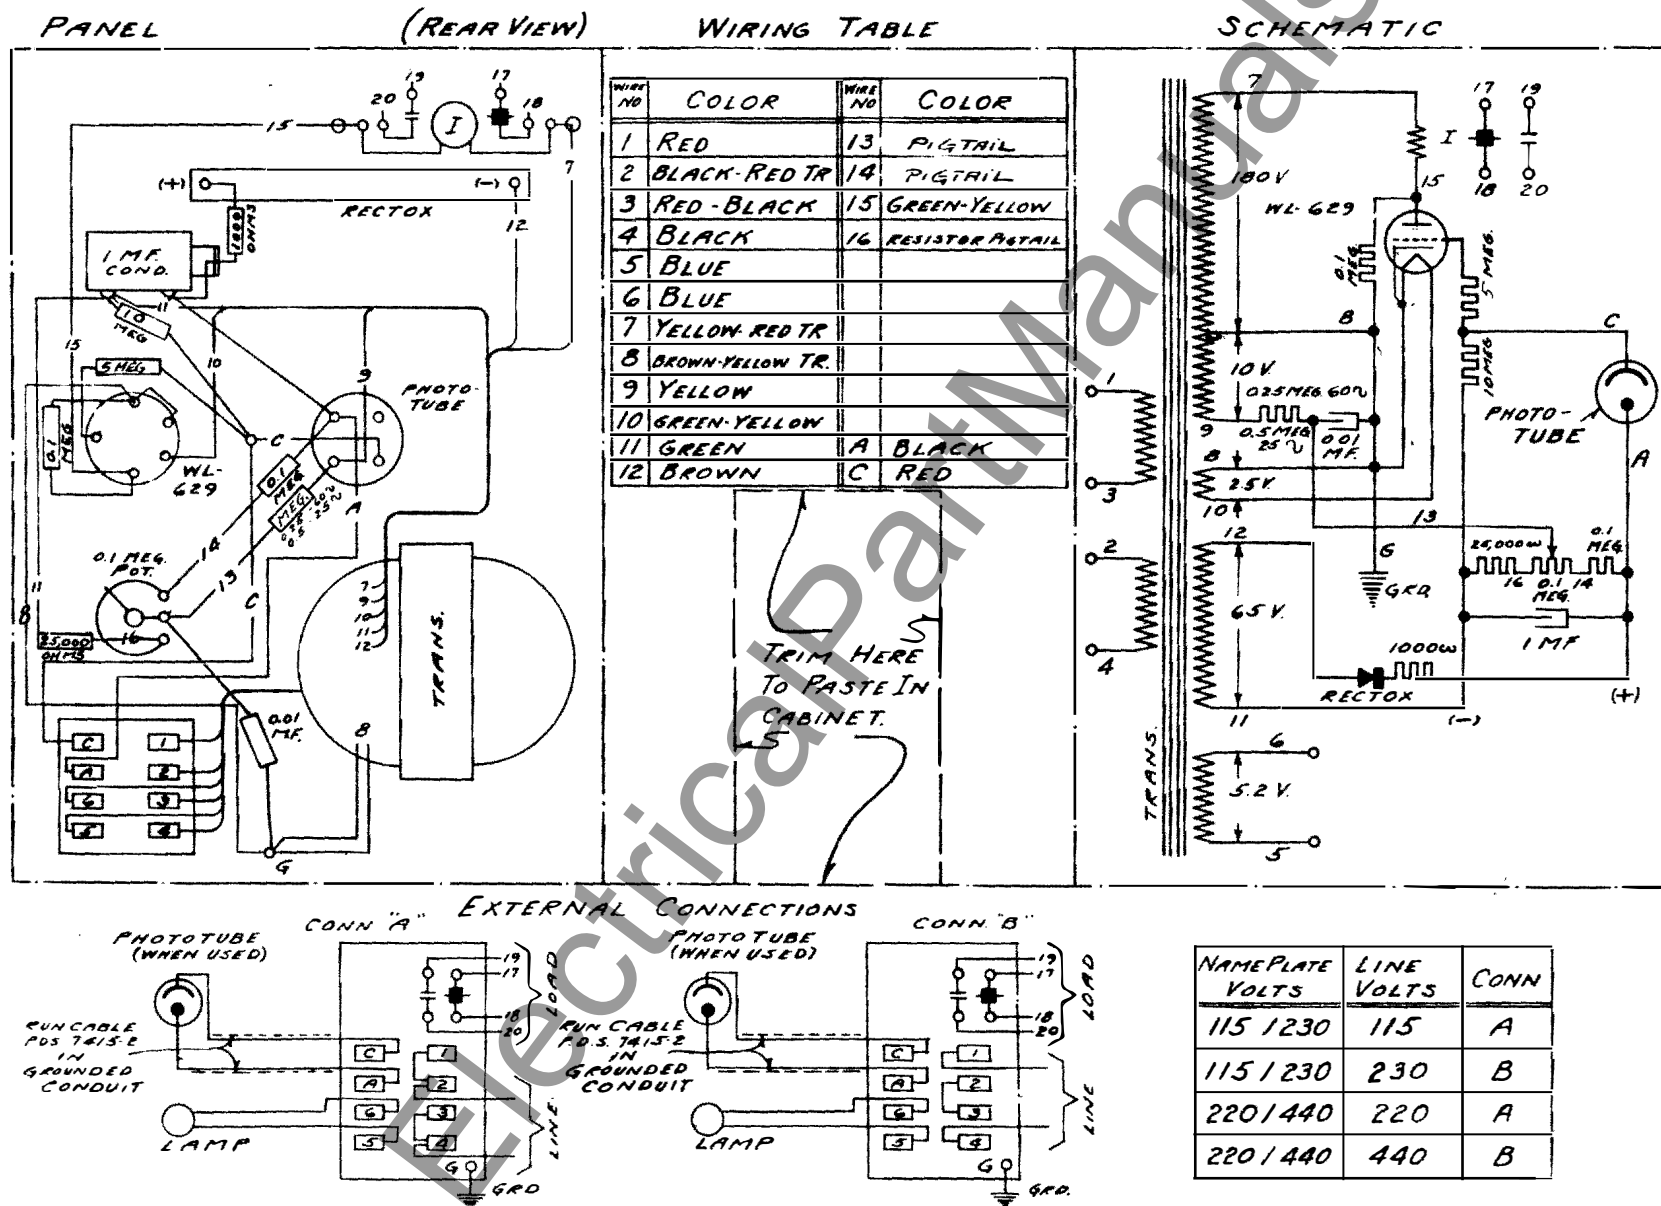

Fig. 3 Type RX Phototroller. Diagram of Connections
- (5) The schematic diagram, for the type RX photo-troller is shown in fig. 3. The photo-troller is equipped with a type WL-629 Thyatron tube which is controlled by a type WL-735 phototube. The WL-629 tube is a gas-filled discharge tube consisting of an anode connected to 15 in fig. 3, a heater winding connected to leads 8 and 10, a cathode connected to Lead 8, and a control grid connected to the 5 MEG. resistor. The characteristics of the WL-629 tube are such that when the grid has a negative potential exceeding approximately 6 volts relative to the cathode the tube does not become ionized, and no current is conducted through the tube. If the grid potential is made more positive, the tube breaks down and conducts rectified current through relay coil I during the half cycles when lead 7 is positive in relation to lead 8.
The grid control voltage as shown in fig. 3 consists of the a-c voltage component between leads 8 and 13, obtained by means of the phase shift circuit consisting of resistor 9-13 and capacity 8-13, and the d-c voltage component C-13. Voltage 8-13 is advanced 135 degrees relative to voltage 8-7. The d-c voltage component C-13 changes its magnitude and polarity when the illumination on the phototube is varied, so that C is positive in relation to 13 when the degree of illumination on the phototube is high, and becomes negative when the illumination on the phototube is decreased.